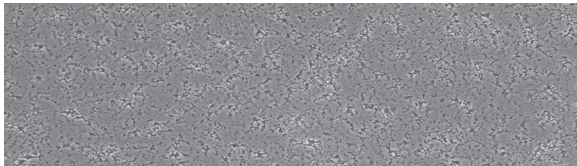

Figure 1. Microscopic appearance of myMATRIX iPSC.
- Matrix background may appear microscopically as small structures at high magnification (see Fig. 1).